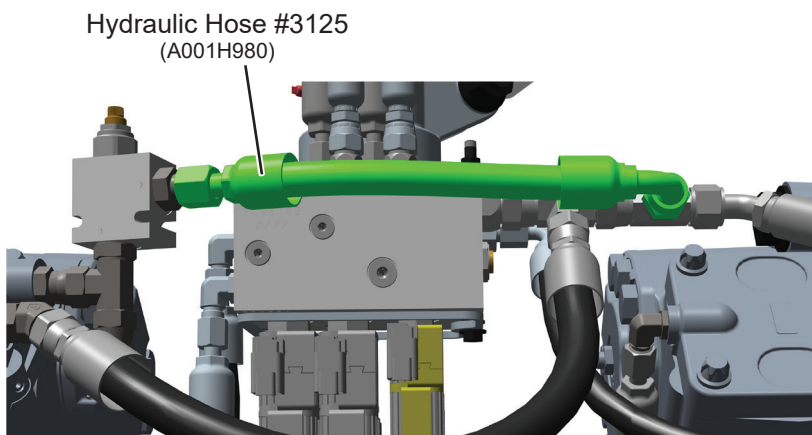

Figure 11. Chute Manifold Hose Installation
14. Connect straight end of hydraulic hose #3125 (A001H980) to steering manifold. See Figure 11. Final tighten hose end to 45 ft. lbs.
15. Connect 90° end of hydraulic hose #3125 (A001H980) to outer T-fitting installed in Step 11. See Figure 11. Final tighten hose end to 58 ft. lbs.